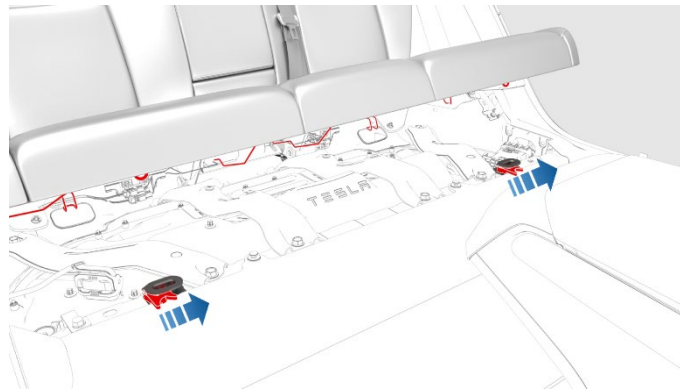

Figure 2
5. Remove the 2nd row lower seat cushion by pressing the LH and RH tabs towards the LH side of the vehicle, and then lift the front edge of the seat cushion (Figure 2).